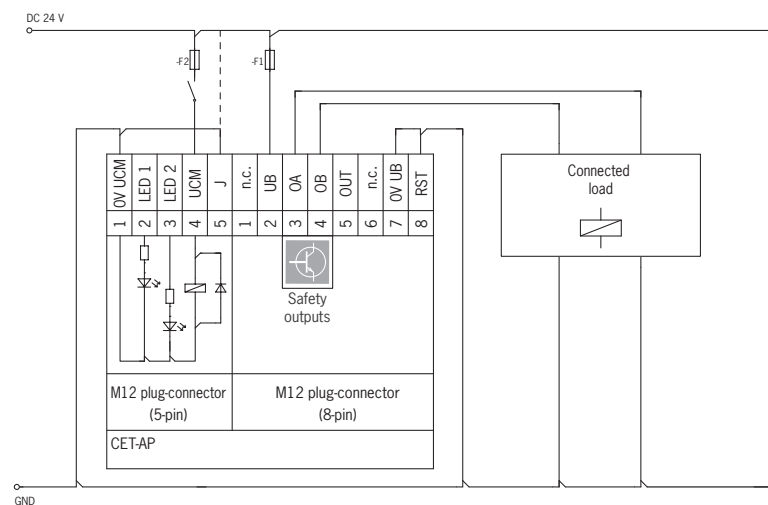

Figure 3: Connection example for version with teach-in input and 2 x M12 plug connectors
Connect the device as shown in Figure 3. The monitoring output OUT and, if available, the door monitoring output OUT D can be connected to a control system.
- In case of version with teach-in input: For the teach-in standby state, the teach-in input J must be connected to +24 V DC (see Figures 3, 4 and 5). In normal operation connect the teach-in input to 0 V.